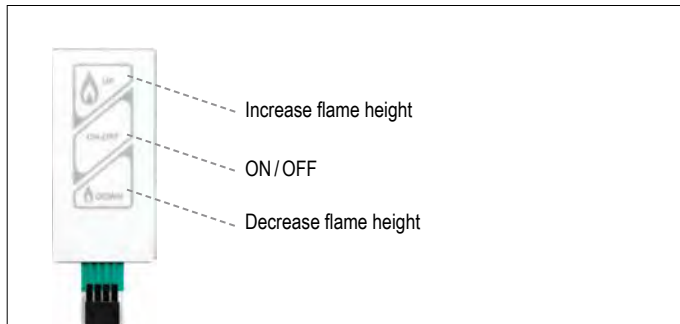

Figure 19: Touchpad/Wall Switch
- Press **ON-OFF** button (see figure 19, page 11) until two short beeps (CE, AGA version) or continuous beeping (CSA version) confirm the start sequence has begun; release button.